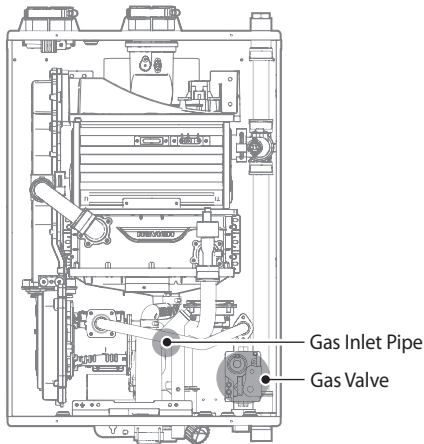

Figure 2. NHB Series Internal Components
- With the internal components exposed, locate the gas inlet pipe and the gas valve in the middle of the unit, as shown in Figure 2.